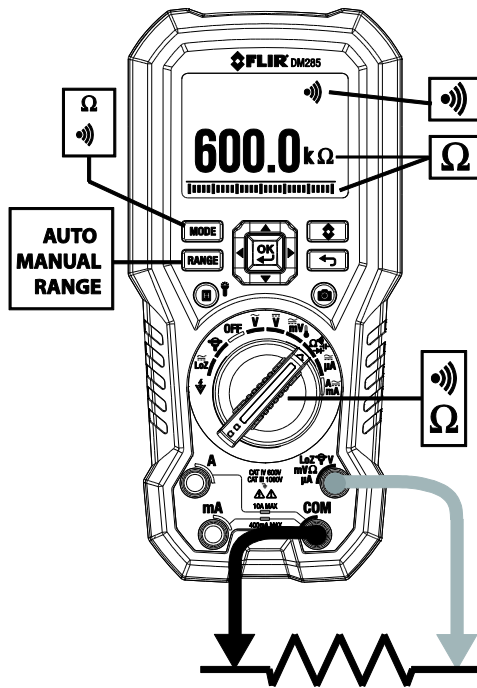

Fig. 9-3 Resistance and Continuity Measurements
1. Refer to **Fig. 9-3**. Set the function switch to the  position.
1. Refer to **Fig. 9-3**. Set the function switch to the Ω  position.